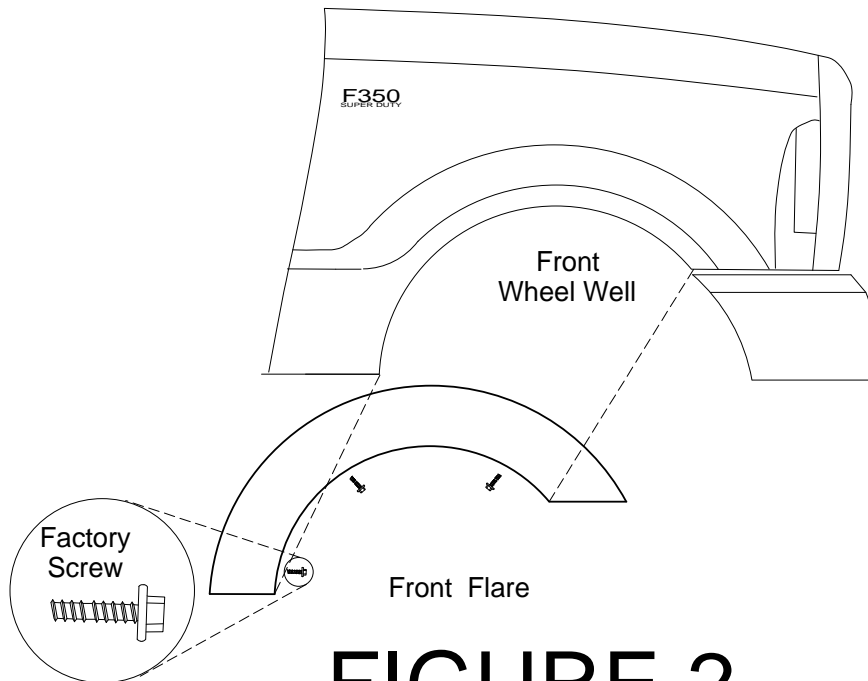
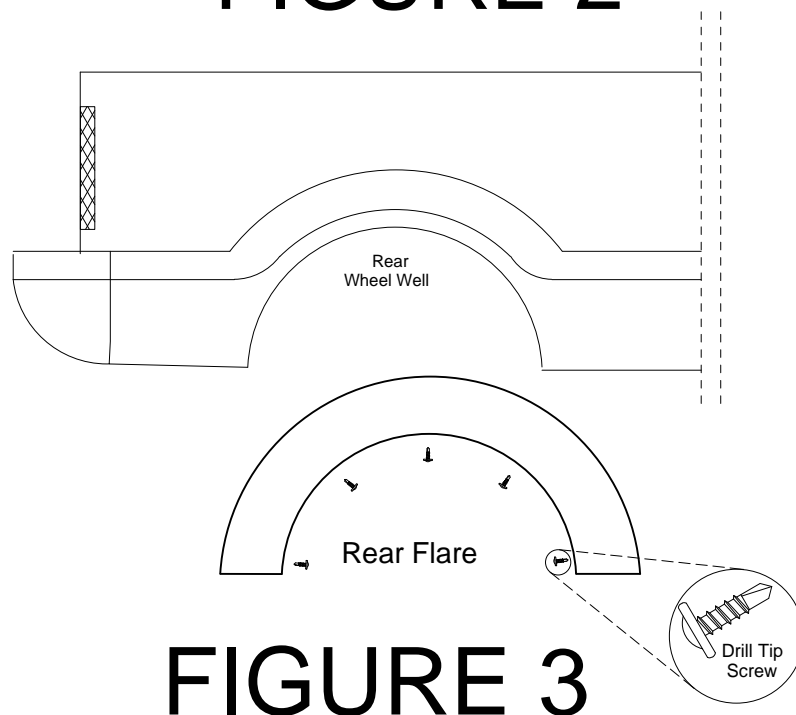

FIGURE 2
FIGURE 3
- (A) Pre-drill all flares with a 3/16" drill bit using the indents formed into the flare as a guide.
- (B) Remove the three factory screws from front wheel well using the 7/32" socket.
- (C) Holding front flare in place on fender, secure with factory screws through holes drilled in flare.
- (D) Applying moderate pressure to the outside surface of the rear flare, fasten with five kit supplied drill tip screws using the holes in the flare as a guide. See **FIGURE 2** and **FIGURE 3**.